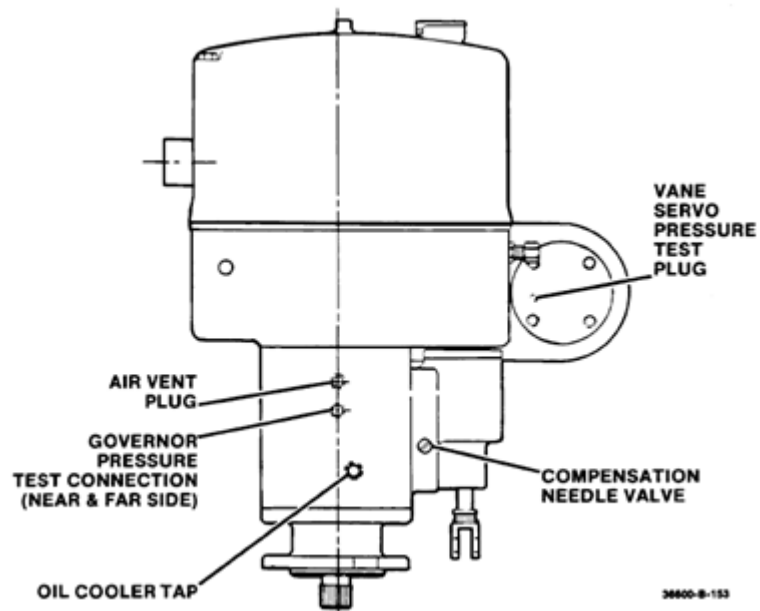

Figure 6-8. PGEV Test Connections
2. Mount governor on test stand. See Figures 6-8, 6-9, and 6-10 and make the following connections: